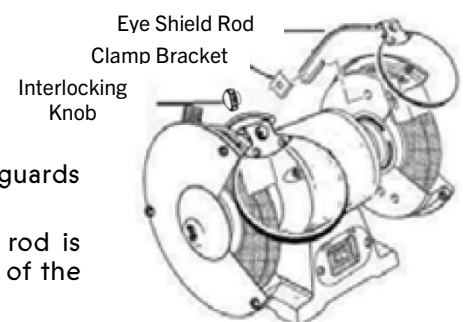

Fig. 3
- Mount the left and right eye shield rod (8) to the inside of the wheel guards using the clamp brackets and Interlocking Knob.
- Use the illustration (Fig.3) as a guide to determine which eye shield rod is mounted on the left and which eye shield rod is mounted on the right of the grinder.